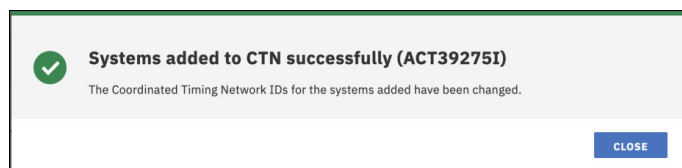

Figure 3-26 Systems successfully added to the CTN
- The message that is shown in Figure 3-26 is displayed upon successful addition of new system(s) to the CTN.